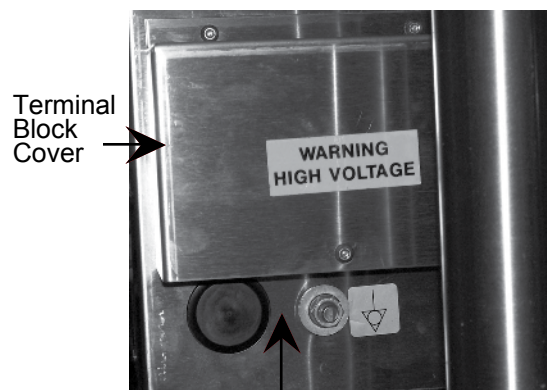

Fig. 2 Conduit Entry Opening
- 1.1.5 Conduit entry is at the control box on the rear left side of the appliance. Access to the terminals is gained by removing the terminal block cover shown in figure 2.